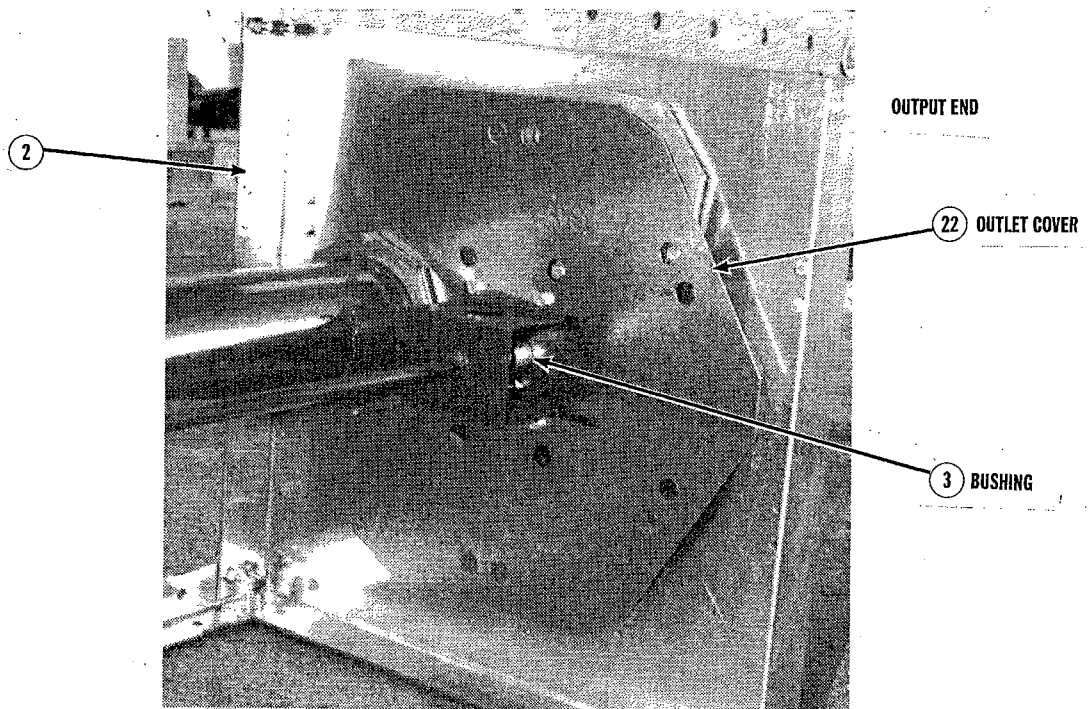

Figure 2
3. Install bushing (item 3) into output base (item 2) and retain with bearing retainer (item 4) and hardware items C and D. See figs. 2 and 3.